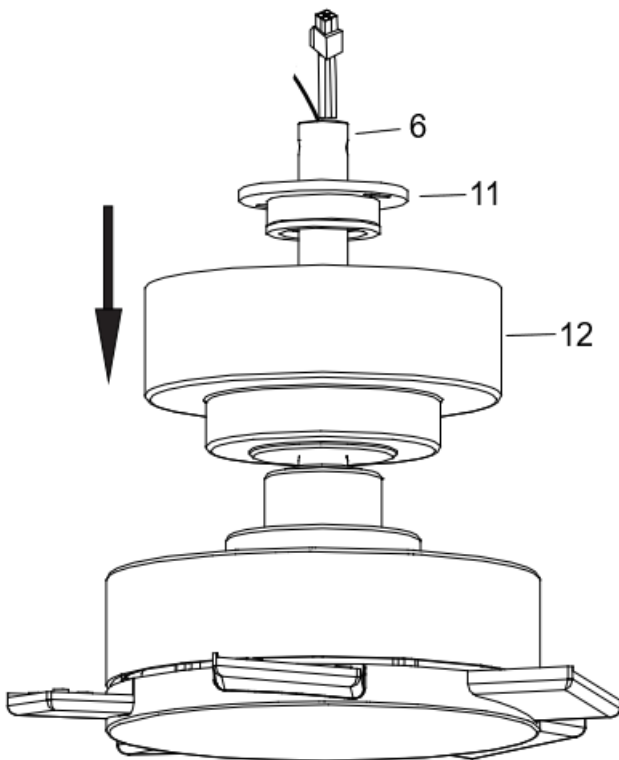
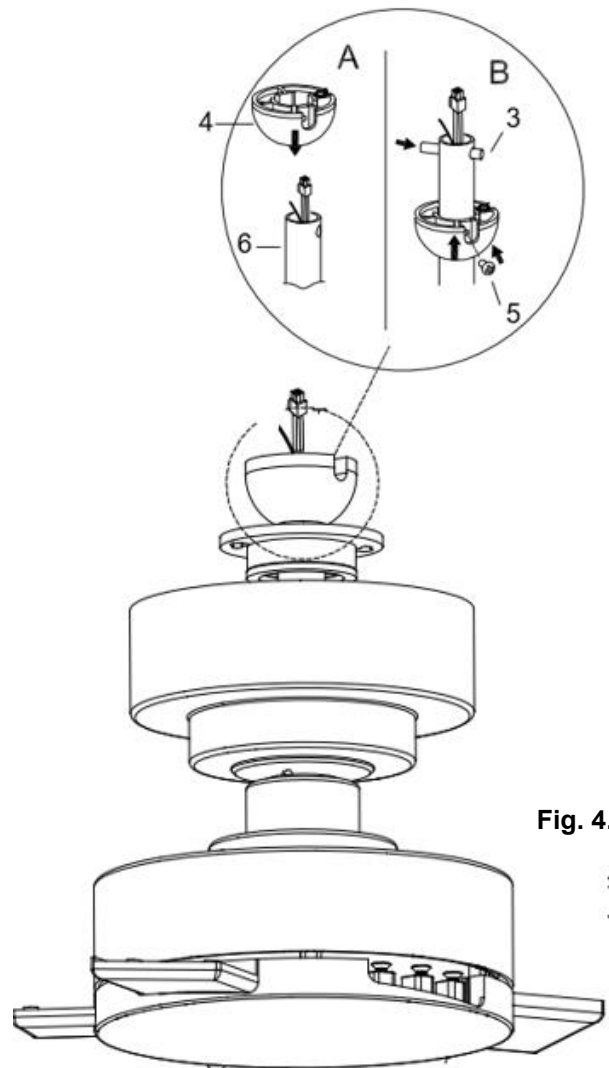

Fig. 4.6
Fig. 4.7
7. Insert the canopy (12) & canopy bracket (11) over the down rod (6) and install the ball joint (4) and dowel pin (3) back onto the down rod (6) and secure by tightening the set screws (5). (Fig. 4.6& Fig.4.7)